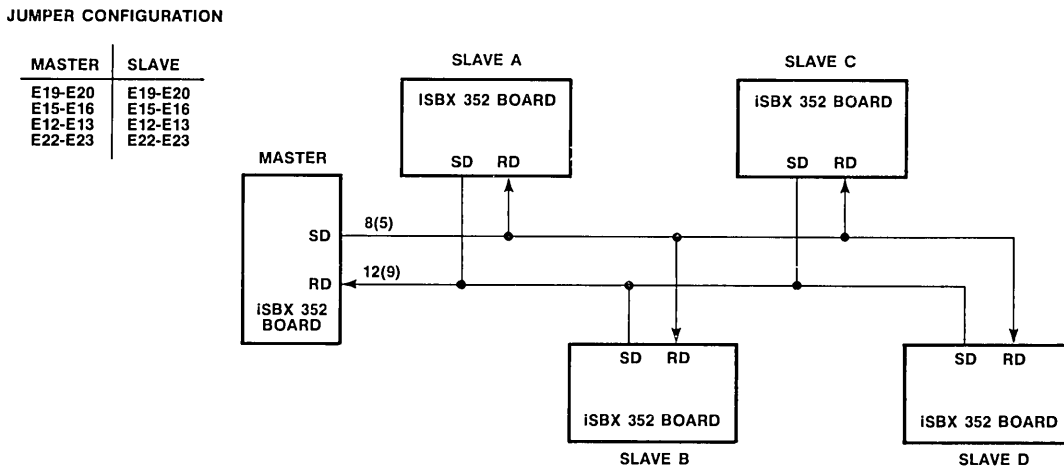

Figure 2-5. Self-Clocking Multidrop Configuration Example - RS422
**2-15. MULTIDROP NETWORKING APPLICATION (Self-Clocking).** Figure 2-5 shows a typical self-clocking multidrop application. In a multidrop application, the iSBX 352 board must be operating with an RS422/449 interface so that the non-participating units can be tri-stated. In Figure 2-5, each signal line represents a cable pair; the B